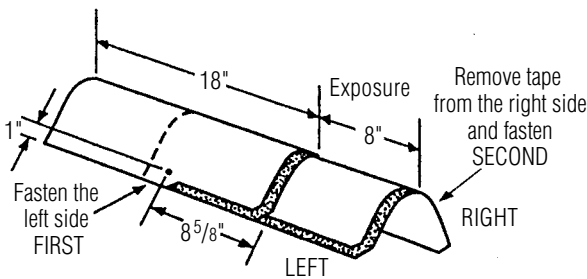

Figure 19-19: Installation of Shangle® Ridge shingles on hips and ridges.
7. Fasten each cap with two fasteners (Figure 19-19). The fasteners must be 1 3/4" long, or longer, so they penetrate either 3/4" into the deck or completely through the deck, exposing at least 1/8" of the tip of the nail. Expose 8" of the Accessory along the ridge or hip line and cover all fasteners.